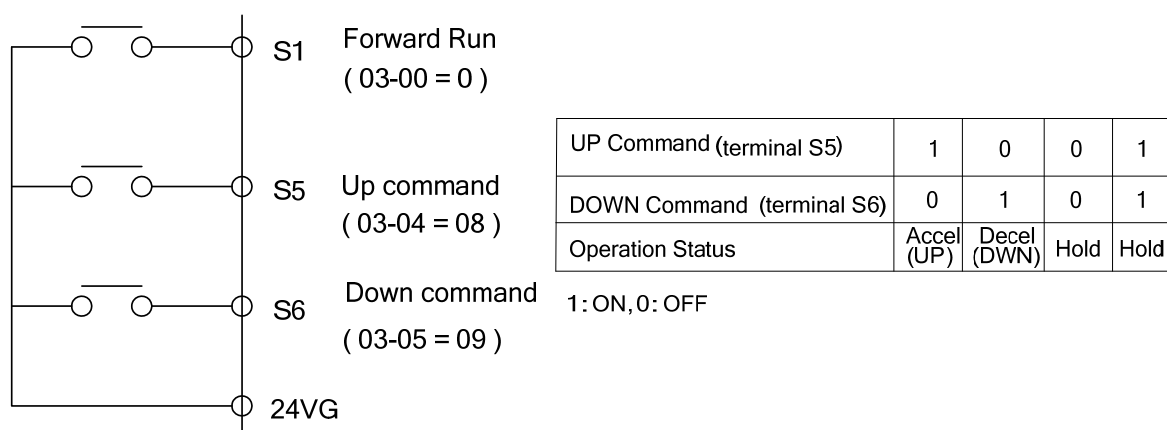
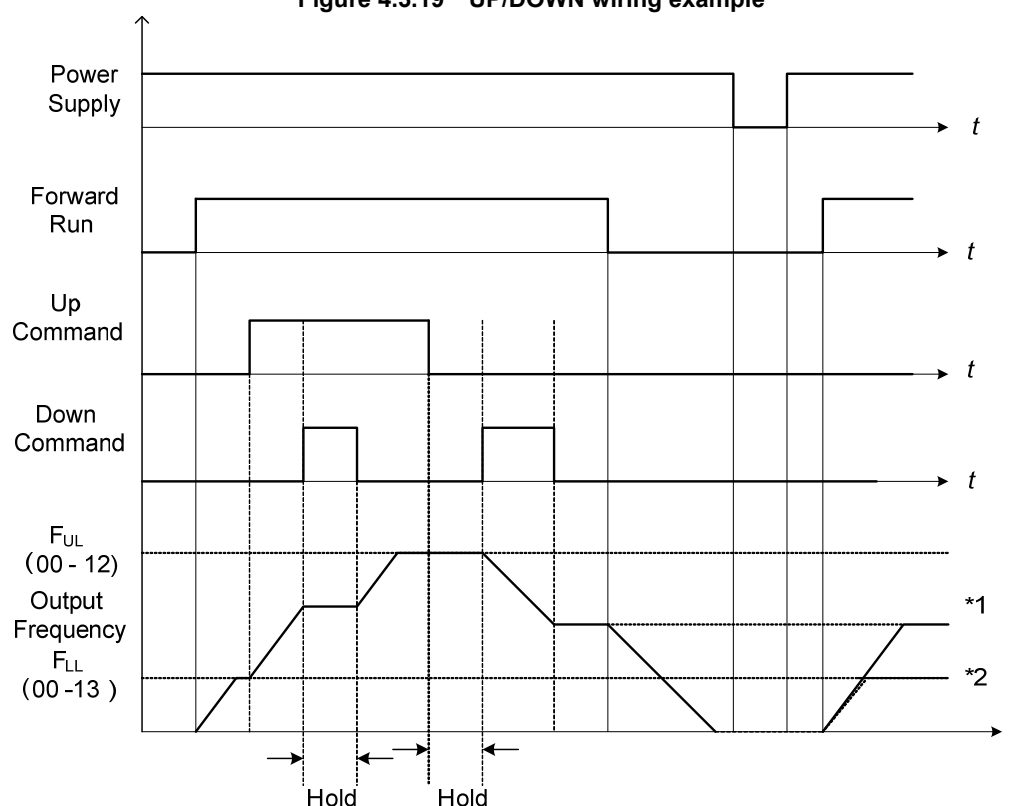

Figure 4.3.19 UP/DOWN wiring example
Figure 4.3.20 Up / Down command time diagram
- (1). Only set a single UP or Down command.
- (2). Start UP / Down command and the acceleration / deceleration prohibition command simultaneously.
- .For the examples of UP/DOWN wiring and time, please refer to figure 4.3.19 and figure 4.3.20.